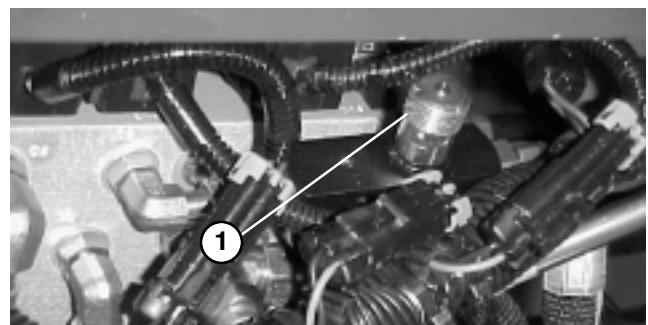

Figure 59
ADJUSTING CUTTING UNIT DROP RATE (Fig. 59–61)
1. Locate valve behind access panel above operator's platform (Fig. 59).